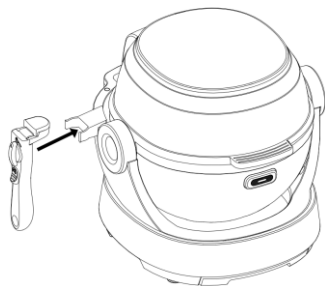

Fig1
2. After the handle holder is fixed, you can place the handle on it when not in use. As shown in Figure 1: Insert the handle into the notch of the handle bracket. As shown in Figure 2: Pull the handle to the right to take it out when you need to use it
12. Fig.1 is oil plug① use for sealing oil, if need to exhaust the food excess grease out of machine, please pull out oil plug as fig.2, then start cooking, by this way, the food oil and grease can exhaust from the holes in the cooking pot side. But this only can be used at tilt direction. If need to put the oil plug back to the cooking pot, just put the oil plug small side ② align to the cooking pot hole and insert as fig.3.
1. Pull back button ①, the buckle ② will flick automatically as fig.1
2. Put the handle at the notch of the base as fig.1
3. Then anticlockwise twist rotary knob ③, buckle ② will frap and clamp the cooking pot, then lift up the cooking pot as fig.1.